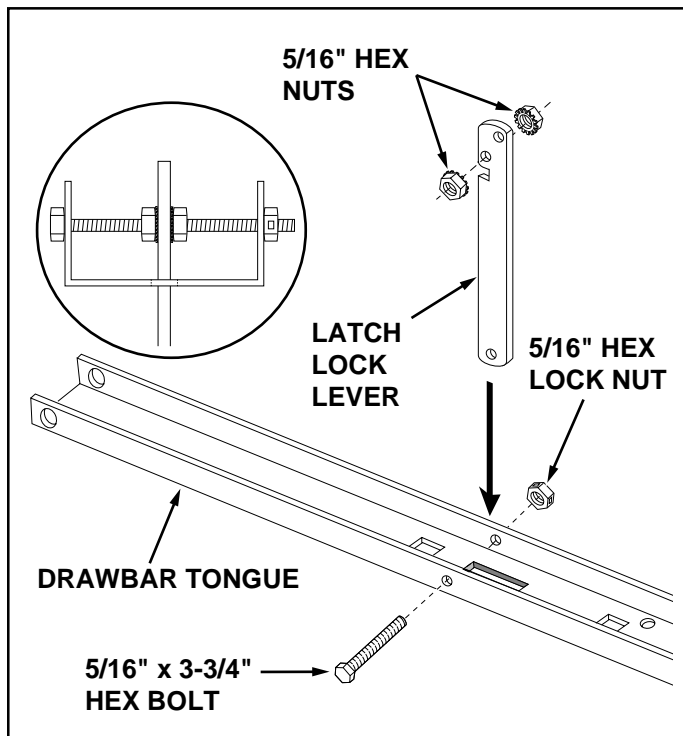

FIGURE 1
3. Place the latch lock lever through the slot in the draw bar tongue as shown in figure 1. Assemble the 5/16" x 3-3/4" hex bolt through the tongue, the lever and two 5/16" hex nuts (one on each side of the lever). Assemble the 5/16" hex **lock** nut onto the end of the bolt and **tighten** so that the bolt can still rotate freely. **Tighten** the two 5/16" hex nuts against the sides of the latch lock lever so that the lever is centered in the slot. See figure 1.